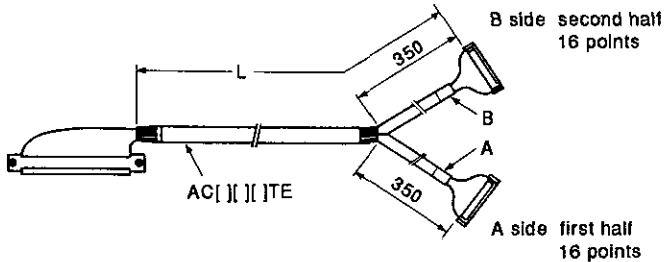

Fig 4.2 Connecting Cable
- (2) Two A6TE2-16SRs and a cable (to be obtained separately [See Fig. 4.2]) are used for 32 points (one connector).
- (3) A special cable allows this relay terminal unit to be located a maximum of 10 m away from the equipment to which it is connected.
- (4) The special cable is available in five lengths.
- (5) Since the provided relays are of the socket type, they can be replaced individually.
- (6) Since the supplied power is converted to relay output, this relay terminal unit can be used with either AC or DC power, and the output has a larger current capacity.
- (7) The terminal screws are self-up screws, which do not easily come out.
- (8) A relay code sheet makes wiring easy.
- (9) This unit can be mounted on a DIN rail only.
- (10) 2-wire loads can be connected to this unit.